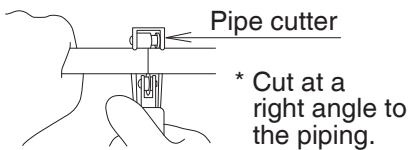

Fig. 2-2
- (2) Use a pipe cutter to cut at a right angle to the piping. (See Fig. 2-2)